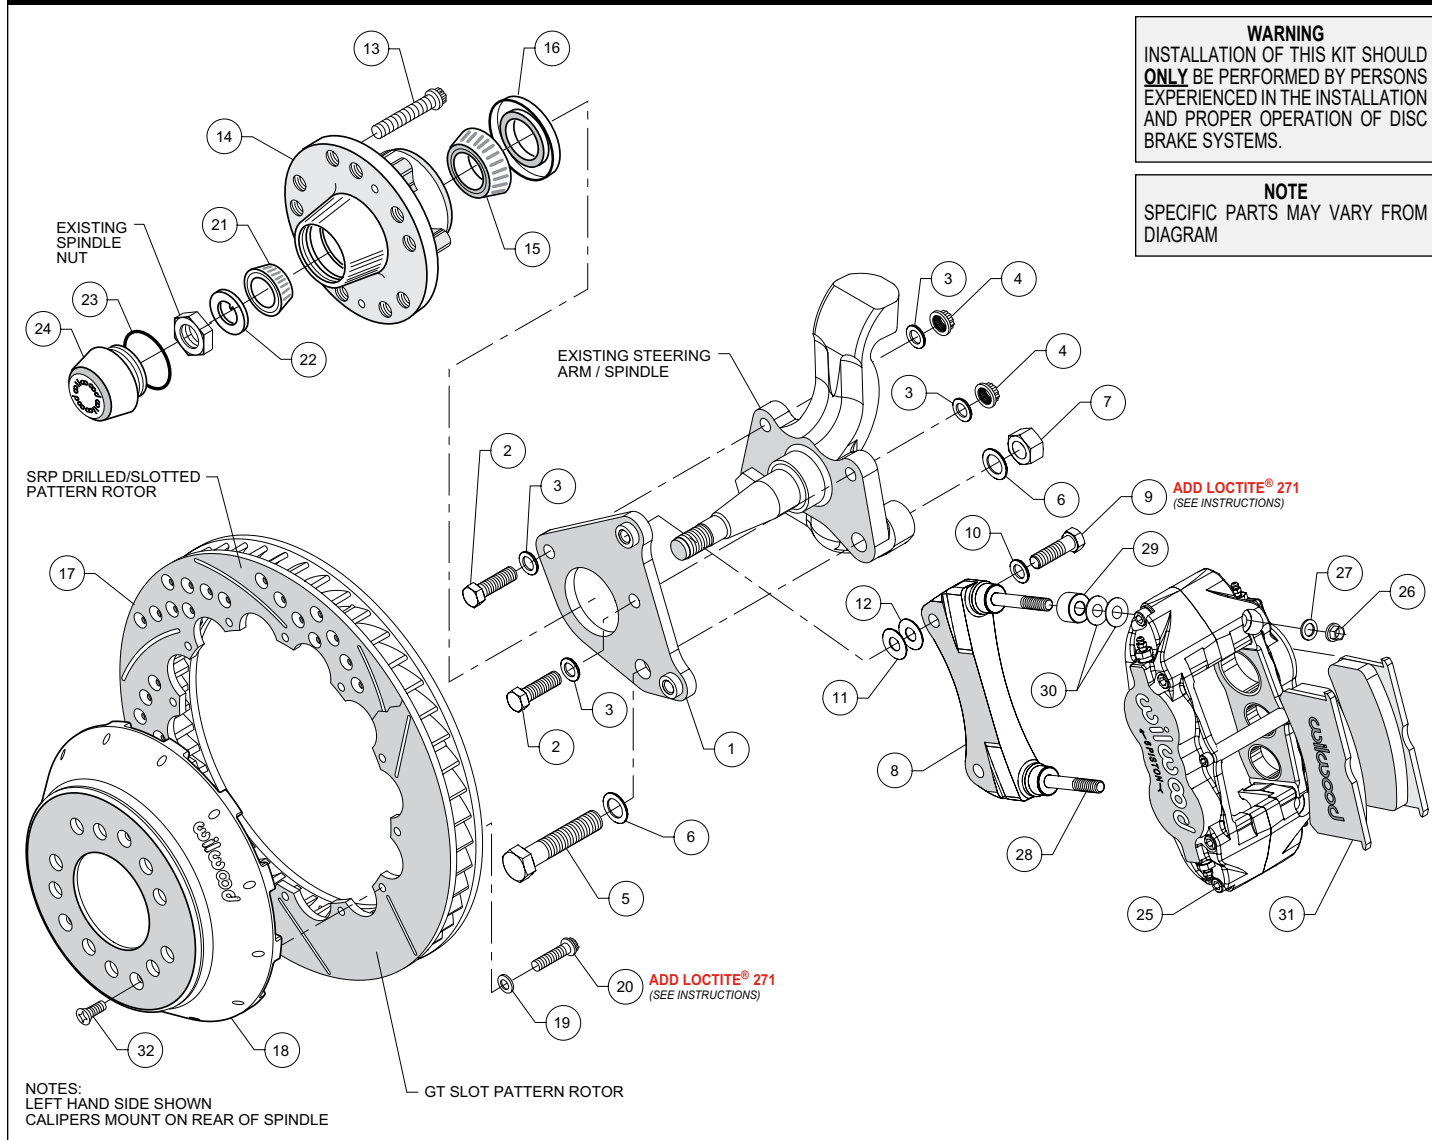

Figure 1. Typical Installation Configuration
NOTE: Numbers in parenthesis refer to the parts list and Figure 1 on the preceding pages.
•Install the flat caliper bracket (1) to backing plate face of spindle using bolts (2 and 5). Install bolt (5) and washer (6) through caliper bracket (1), spindle face and the steering arm. Install another washer (6) and lock nut (7) on the rear side. Install two bolts (2) with washers (3) through caliper bracket (1), spindle face and the steering arm. Install another washer (3) and lock nut (4) on the rear side of each bolt. Torque two lock nuts (4) to 47 ft-lb. Torque lock nut (7) to 140 ft-lb. **NOTE:** Be sure the heads of the caliper bracket (1) insert nuts are facing outward toward the wheel. Reference Figure 1 as necessary.
•The radial caliper mounting bracket assembly (8) should be installed first with clean, dry threads on the mounting bolts. Install the bracket on the inboard side of the flat caliper mounting bracket (1) by sliding bolt (9) through flat washer (10), through the mounting hole in the bracket (8) and into the flat bracket (1) insert nuts. Initially place two shim washers (12) between the two brackets (1 and 8) (see figure 1). The radial bracket (8) must tighten squarely against the inboard side of the flat mounting bracket (1). Later, after the caliper, pad, and rotor alignment has been checked, and any necessary shims have been put in place, the mount bolts should be coated with red *Loctite*® 271 and torqued to 47 ft-lbs.
•Install five new wheel studs (13) into the hub (14). Torque to 77 ft-lb. **NOTE:** There are two five lug patterns in the hub (5 x 4.00 and 5 x 4.50). Make sure of the correct hole pattern for the correct wheel application before installing studs into hub.
•Pack the large inner bearing cone (15) with high temperature disc brake bearing grease (available from your local auto parts store) and install into the backside of the hub (14).
- Pack the small outer bearing cone (21) with high temperature disc brake bearing grease. Lightly coat the spindle bearing surfaces with bearing grease. Slide the hub assembly (13, 14, 15 and 16) with outer bearing cone (21) onto the spindle. Secure using spindle washer (22) and existing spindle nut. Adjust bearings per OEM specifications and install nut locking device.
- Install the dust cap (24) onto the hub (14). Friction created by the o-ring (23) on the dust cap (24) keeps it from unscrewing. The O.D. of the existing spindle washer may be larger than the I.D. of the dust cap (24) which may allow the washer to contact the dust cap (24). Be sure to use the spindle washer (22) supplied with the kit instead of the stock washer.
- NOTE:** *This kit contains distinct right and left hand calipers that must be mounted in a specific direction, as described below.* Initially place two .035" thick shims (30) and one spacer (29) on each stud (28) as shown in Figure 1. Mount the caliper (25) onto the bracket (8) using lock nuts (26) and washers (27), Figure 1. Ensure that the caliper is mounted so that the largest pistons are at the rotor exit end of the caliper, in relation to the direction of rotor rotation. Temporarily tighten the lock nuts and view the rotor through the top opening of the caliper. The rotor should be centered in the caliper. If not, adjust by adding or subtracting shims (11 and/or 12) between the radial bracket and the spindle bracket. Always use the same amount of shims on each of the two mounting bolts.
- Remove the caliper center bridge pad retainer bolt, nut, and tube from the caliper. Slide the brake pads (31) into place. They should install easily without interference. Check that the outside radius of the brake pad is flush with the outside diameter of the rotor face. Add or subtract shims (30) between the caliper and radial mounting bracket to gain the proper alignment. Reinstall the center bridge pad retainer tube, bolt, and locknut. The locknut should be snug without play in the bolt or tube. Be cautious not to over tighten.
- Once all clearances have been checked, remove the wheel, caliper, hat, and rotor from the spindle and hub. Secure the radial caliper mounting bracket (8) to the flat caliper mounting bracket (1) using red *Loctite*® 271. Torque the bolts to 47 ft-lbs. Reinstall the hat and rotor assembly and again use several lug nuts to hold it in place. Reinstall the caliper, torque the caliper nuts (26) to 28 ft-lbs.
- Install three flat head socket screws (32) through the small holes in the hat (18) and torque to 85 in-lb.